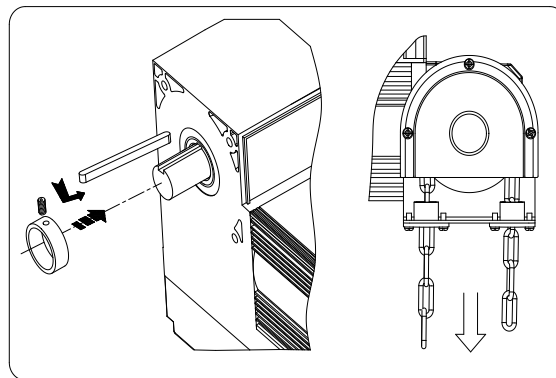

Fig.3
- Slot the 1st spacer ring② onto the door shaft, tighten the screw①.
- Slot the door operator③ back onto the door shaft (ensure correct position of the key⑦ see Fig.3) and screw the wall bracket on the operator with four bolts⑤ M10×20 and plain washers.
- Mount the wall bracket (L-shaped iron fitting) onto the wall using expansion bolts⑥. The wall bracket can be placed from the left or from the right of the operator.
- Slot the 2nd spacer ring⑨ onto the door shaft and push it close to the door operator. Push the 1st spacer ring close to the operator and fix both rings with two screws①⑧ M8×15.